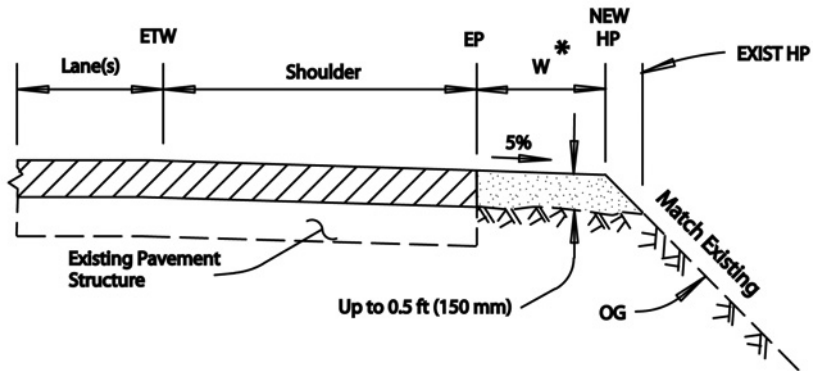

Figure 2
- d. Shoulder backing should not be placed on existing side slopes where it cannot achieve at least a 6:1 (1:6) cross slope and a HW of at least 2 ft (0.6 meters3) (See Figure 2)